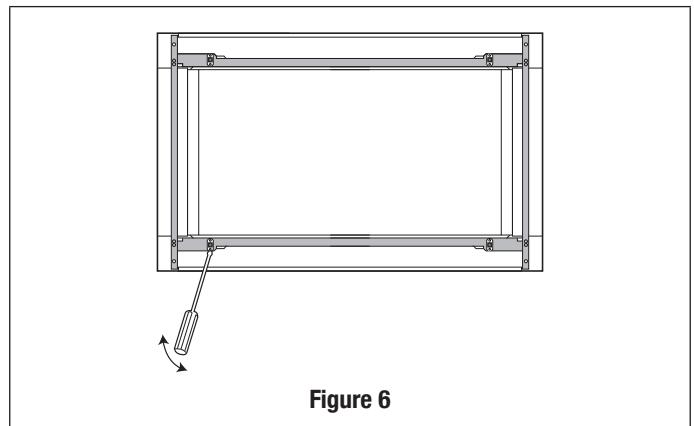

Figure 6
3. **DISASSEMBLY:** The FRONT FRAME and BACK FRAME come pre-assembled with ball studs engaged in the receivers. Separate the FRONT FRAME from the BACK FRAME. Place the assembly facedown onto a protected surface. At the location of the ball stud, insert a flathead screwdriver between the FRONT FRAME and the BACK FRAME and gently pry up to disengage the ball stud from the receiver. Repeat for each corner. See Figure 6.